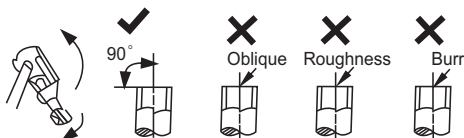

Fig. 38 – Pipe Cutting
- a. Cut the pipe, with a pipe cutter, at 90 degrees (see Fig. 38).